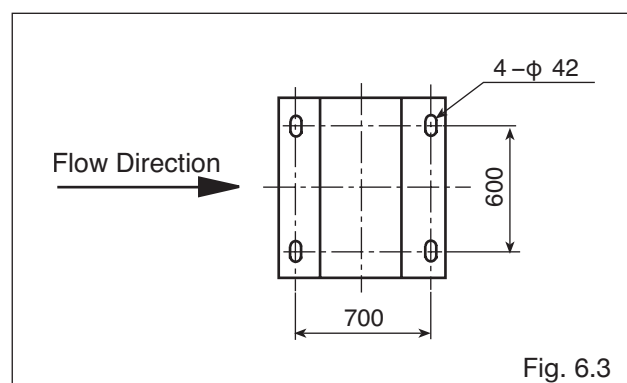

Fig. 6.3
- (1) The meter must be installed on the discharge side of the pump.
- (2) Concrete the foundation at the installation location and install anchor bolts as shown in Fig. 6.3. Select anchor bolts from "JIS B 1178L type".
- (3) Avoid pipe strains when installing the meter.
- (4) Secure a working space for disassembly and servicing the flowmeter. A space one meter min. around the flowmeter is necessary.
- (5) A newly assembled piping system requires flushing of the entire piping assembly to remove construction debris thoroughly before connecting the flowmeter.